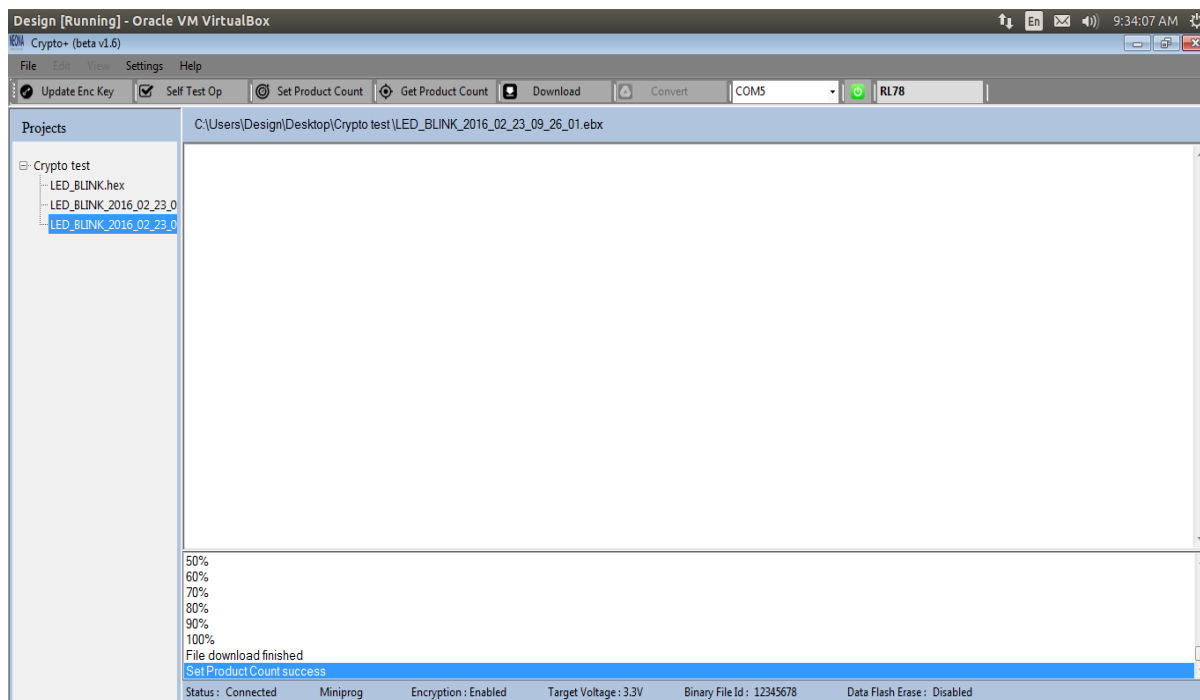

Figure 2.35
STEP 2: After successful setting of the product count, a message ‘Set Product count success’ will appear in the text view as shown in figure 2.35.